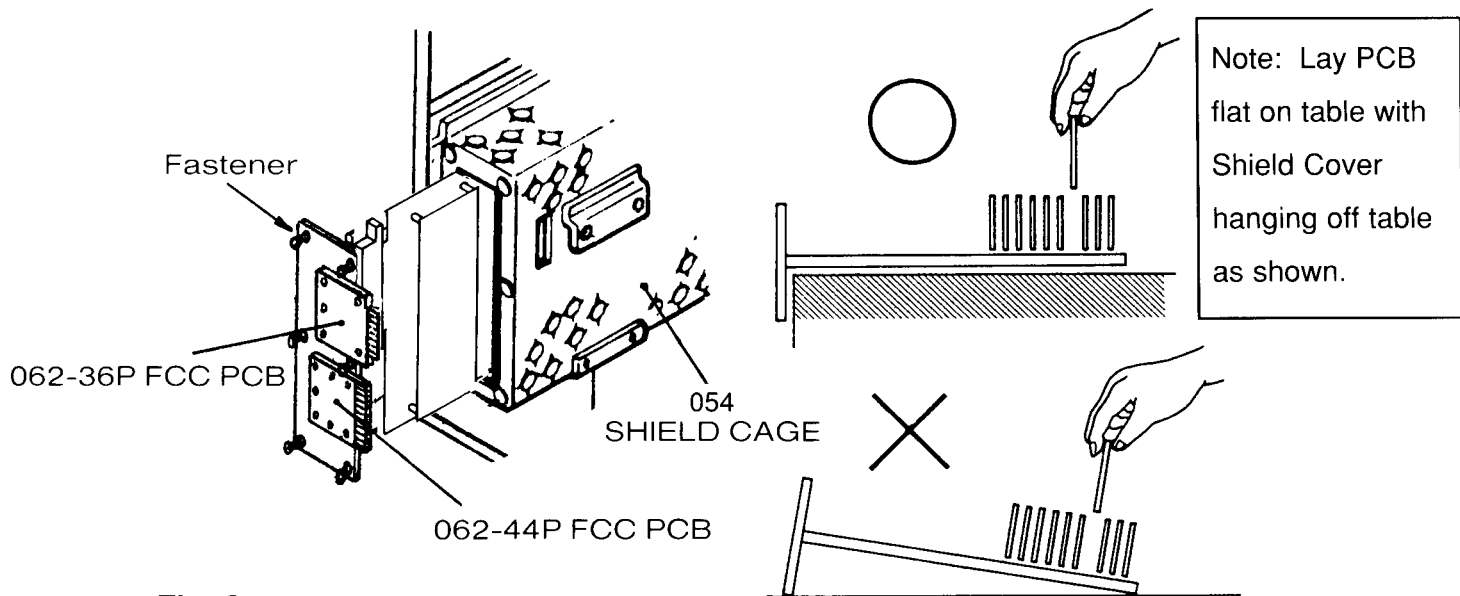

Fig. 8
- (1) Make sure the game is unplugged!!
- (2) Open the rear door panel.
- (3) Remove the 36 pin and 44 pin edge connectors from the right side of the FCC-PCBs on the shield cover.
- (4) Pull out the 6 fasteners located on the perimeter of the shield cover. See Fig. 8
- (5) Remove the 56 pin FCC short harnesses from the game P.C. board.
- (6) Remove the game PCB from the shield cage by carefully sliding it straight out of the wooden PCB guides.
- (A) Do not use non-Nintendo parts!
- (B) Do not modify your game circuitry!
- (C) Do not modify the wiring harness and connections!
- (D) Connect this game only to a grounded 3-wire outlet.
- (E) After servicing the Game PCB, shut the Shield Cover completely with the Fasteners. See Fig. 8.